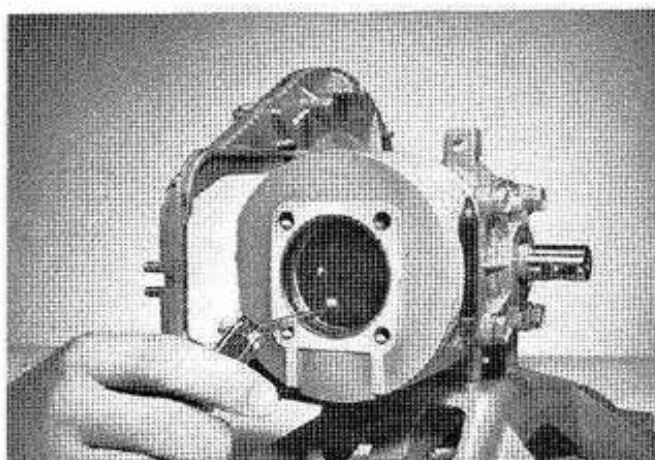

Figure 74. Piston Ring Gap Test.
- f. To test the piston rings for wear, insert one of the rings approximately 1/2 inch into the cylinder bore. (See Figure 74.) Using a feeler guage, check the ring end gap. Replacement of the ring is necessary if the gap is greater than .070.